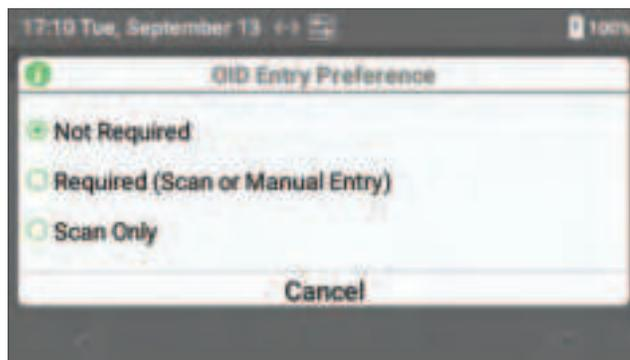

Figure 36: *OID Entry Preference*
- 2 In the dialog box (Figure 36), select the appropriate option: